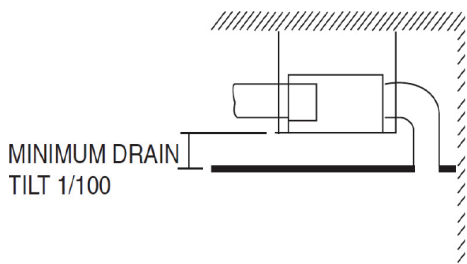

Fig. 8 —False Ceiling Installation
- There should be enough room within the false ceiling for installation and maintenance. See Fig. 8 and 9.